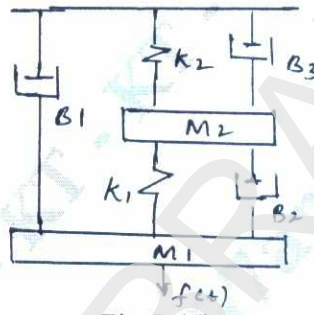

Fig.Q.1(b)
- b. For the mechanical system shown in Fig.Q.1(b). Draw the mechanical network and obtain the f-v analogous electrical systems. (07 Marks)